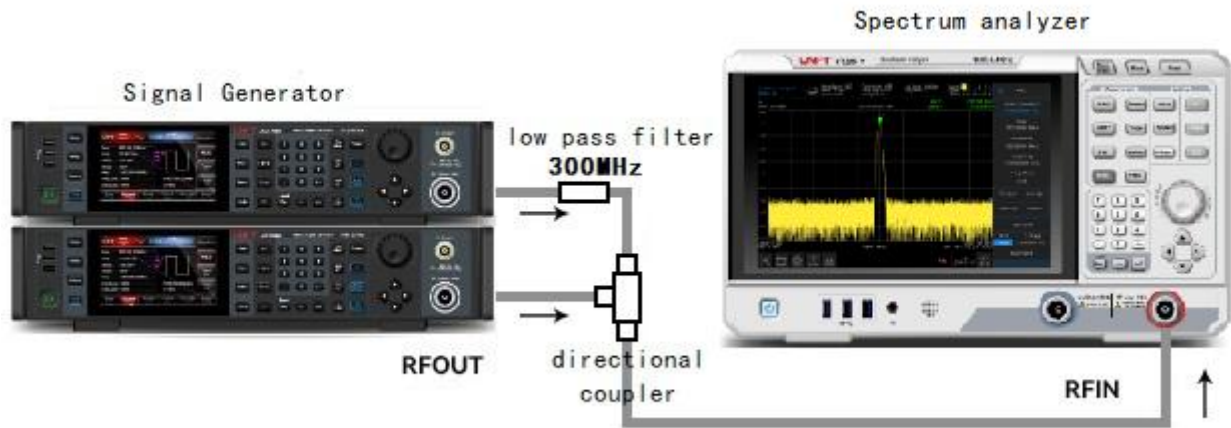

Figure 3-18 Instrument Setting of Third-Order Intercept Signal
1. As shown in Figure 3-18 to connect an instrument. Connect the input port of the spectrum analyzer via low pass filter and directional coupler, the output of the directional coupler